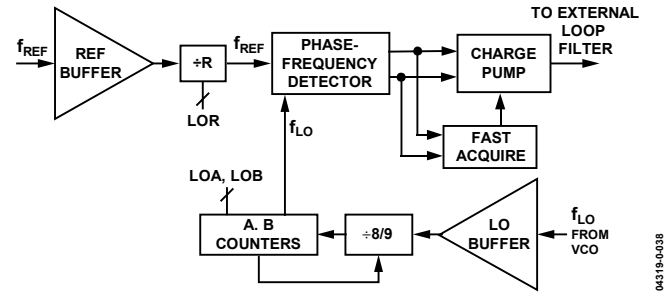

Figure 39. LO Synthesizer
The LO synthesizer shown in Figure 39 is a fully programmable phase-locked loop (PLL) capable of 6.25 kHz resolution at input frequencies up to 300 MHz and reference clocks of up to 26 MHz. It consists of a low noise, digital, phase-frequency detector (PFD), a variable output current charge pump (CP), a 14-bit reference divider, programmable A and B counters, and a dual-modulus 8/9 prescaler.
The clock synthesizer is a fully programmable integer-N PLL capable of supporting input clock and reference frequencies up to 26 MHz. It is similar to the LO synthesizer described in Figure 39 with the following exceptions: